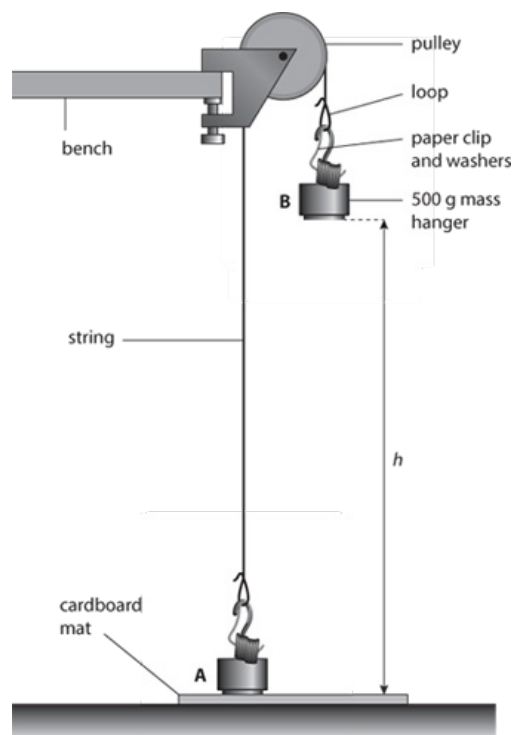

Figure 3.1: Weights, paper clips and string over pulley.
- 1 Set up the apparatus as shown in Figure 3.1.